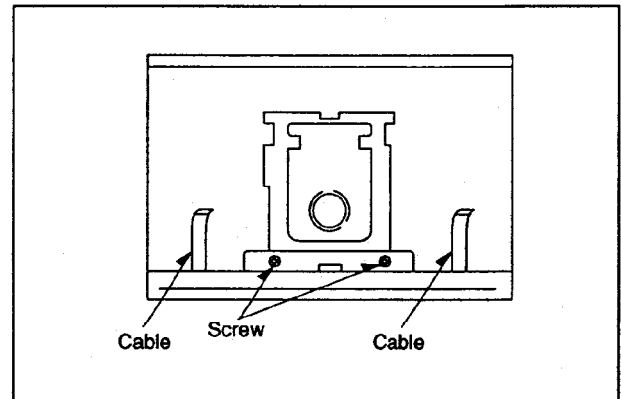
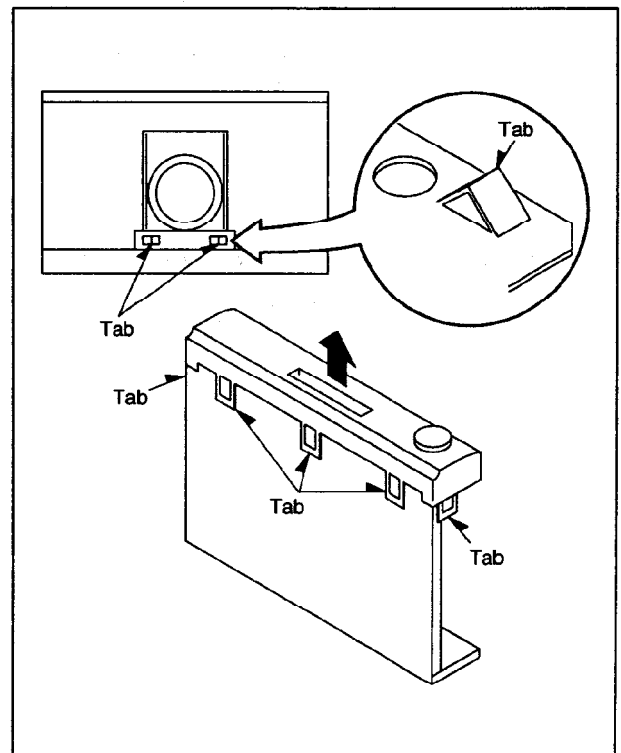

Fig. 1-2-2 Removal of the Front Panel
Fig. 1-2-3 Location of Tabs on the Front Panel
6. Remove the tray panel attached to the front edge of the tray as shown in Fig. 1-2-1. Then, load the tray manually and remove the front panel as shown in Fig. 1-2-2 and Fig. 1-2-3.